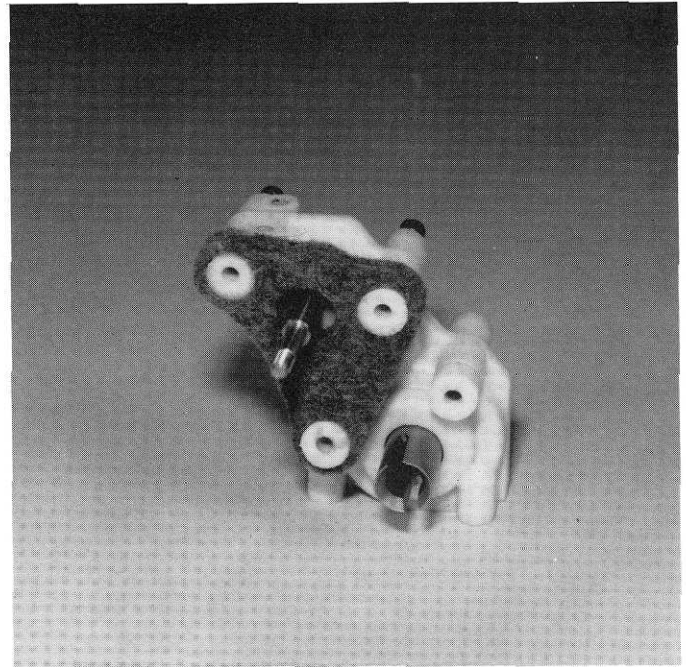

Fig. 67
□ **Fig. 67** Slip the felt dust shield on the three bolts as shown and slip the fourth plastic spacer on the other bolt.